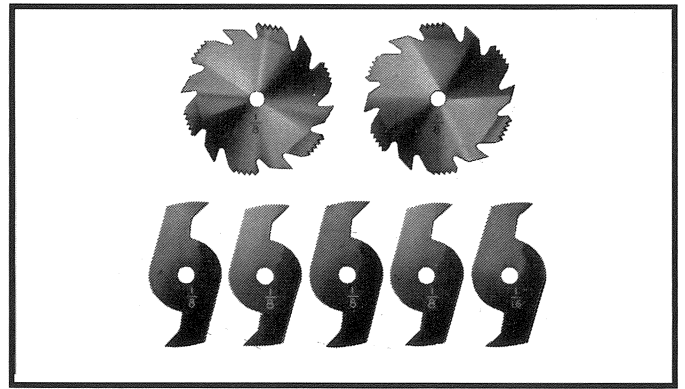
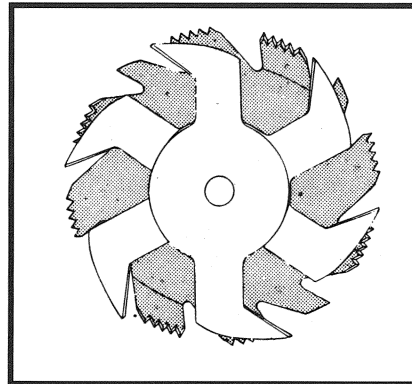
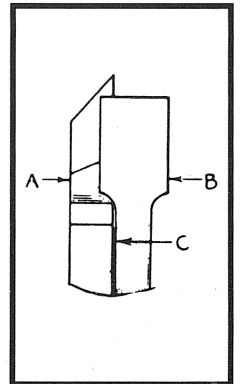

Fig. 96
Fig. 97
Fig. 98
Dadoing is cutting a rabbet or wide groove into the work. Most dado head sets are made up of two outside saws and four or five inside cutters, as shown in Fig. 96. Various combinations of saws and cutters are used to cut grooves from 1/8" to 13/16" wide for use in shelving, making joints, tenoning, grooving, etc. The cutters are heavily swaged and must be arranged so that this heavy portion falls in the gullets of the outside saws, as shown in Fig. 97. The saw and cutter overlap is shown in Fig. 98, (A) being the outside saw, (B) an inside cutter, and (C) a paper washer or washers which can be used as needed to control the exact width of groove. A 1/4" groove is cut by using the two outside saws. The teeth of the saws should be positioned so that the raker on one saw is beside the cutting teeth on the other saw.